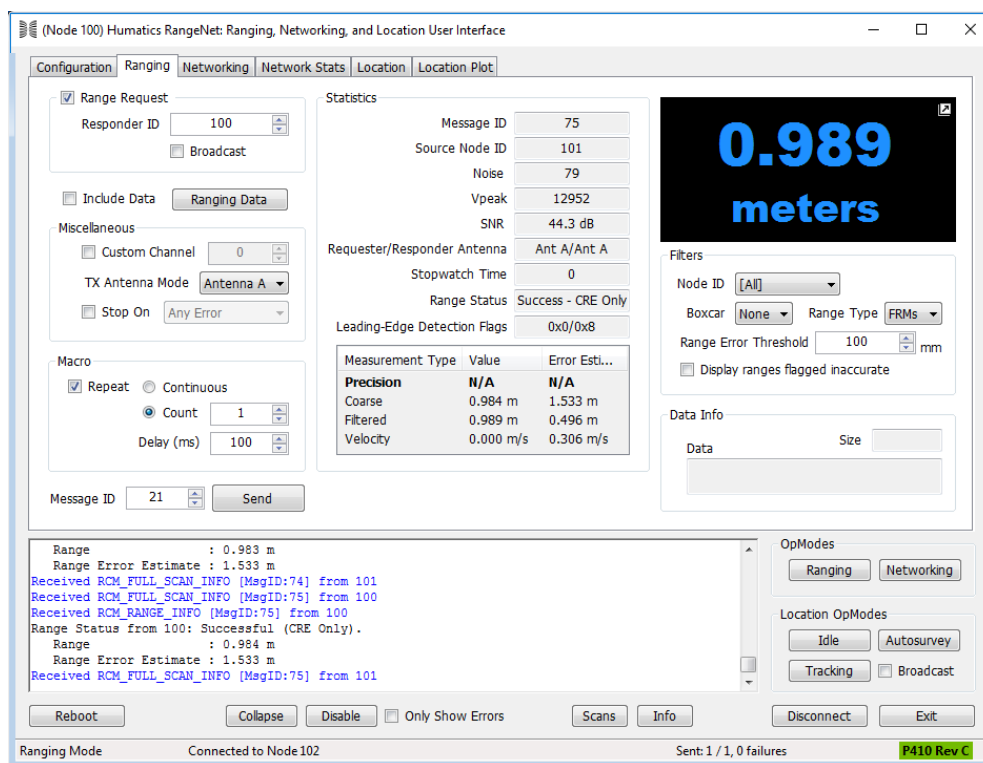

Fig. F-1: Example received CRE
8. Range from Unit 100 to 101. The response packet sent from 101 to 100 will be received at 102 (as well as at 101). Since 102 has successfully ranged to 101 a calibration reference value exists and the P4xx is able to generate a CRE. This measurement is reported on the Ranging tab. See **Figure F-1** for an example. Note that the CRE value is reported in Blue.